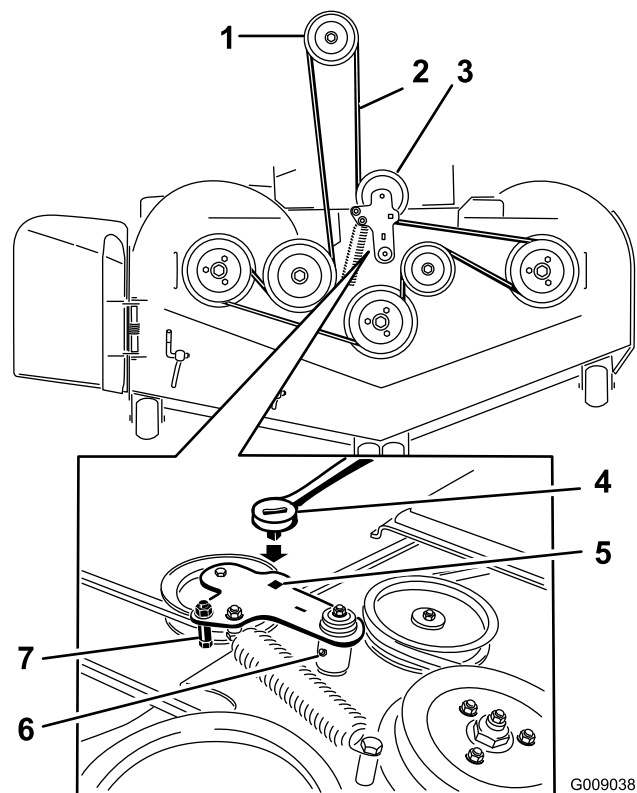

Figure 73
5. Use a ratchet in the square hole in the idler arm to remove the tension on the idler spring (Figure 73).
7. Remove the belt guide on the spring loaded idler arm shown in Figure 73.
9. Install the new belt around the mower pulleys and the clutch pulley under the engine (Figure 73).
10. Install the belt guide on the idler arm shown in Figure 73.
11. Using the ratchet in the square hole, install the idler spring (Figure 73).